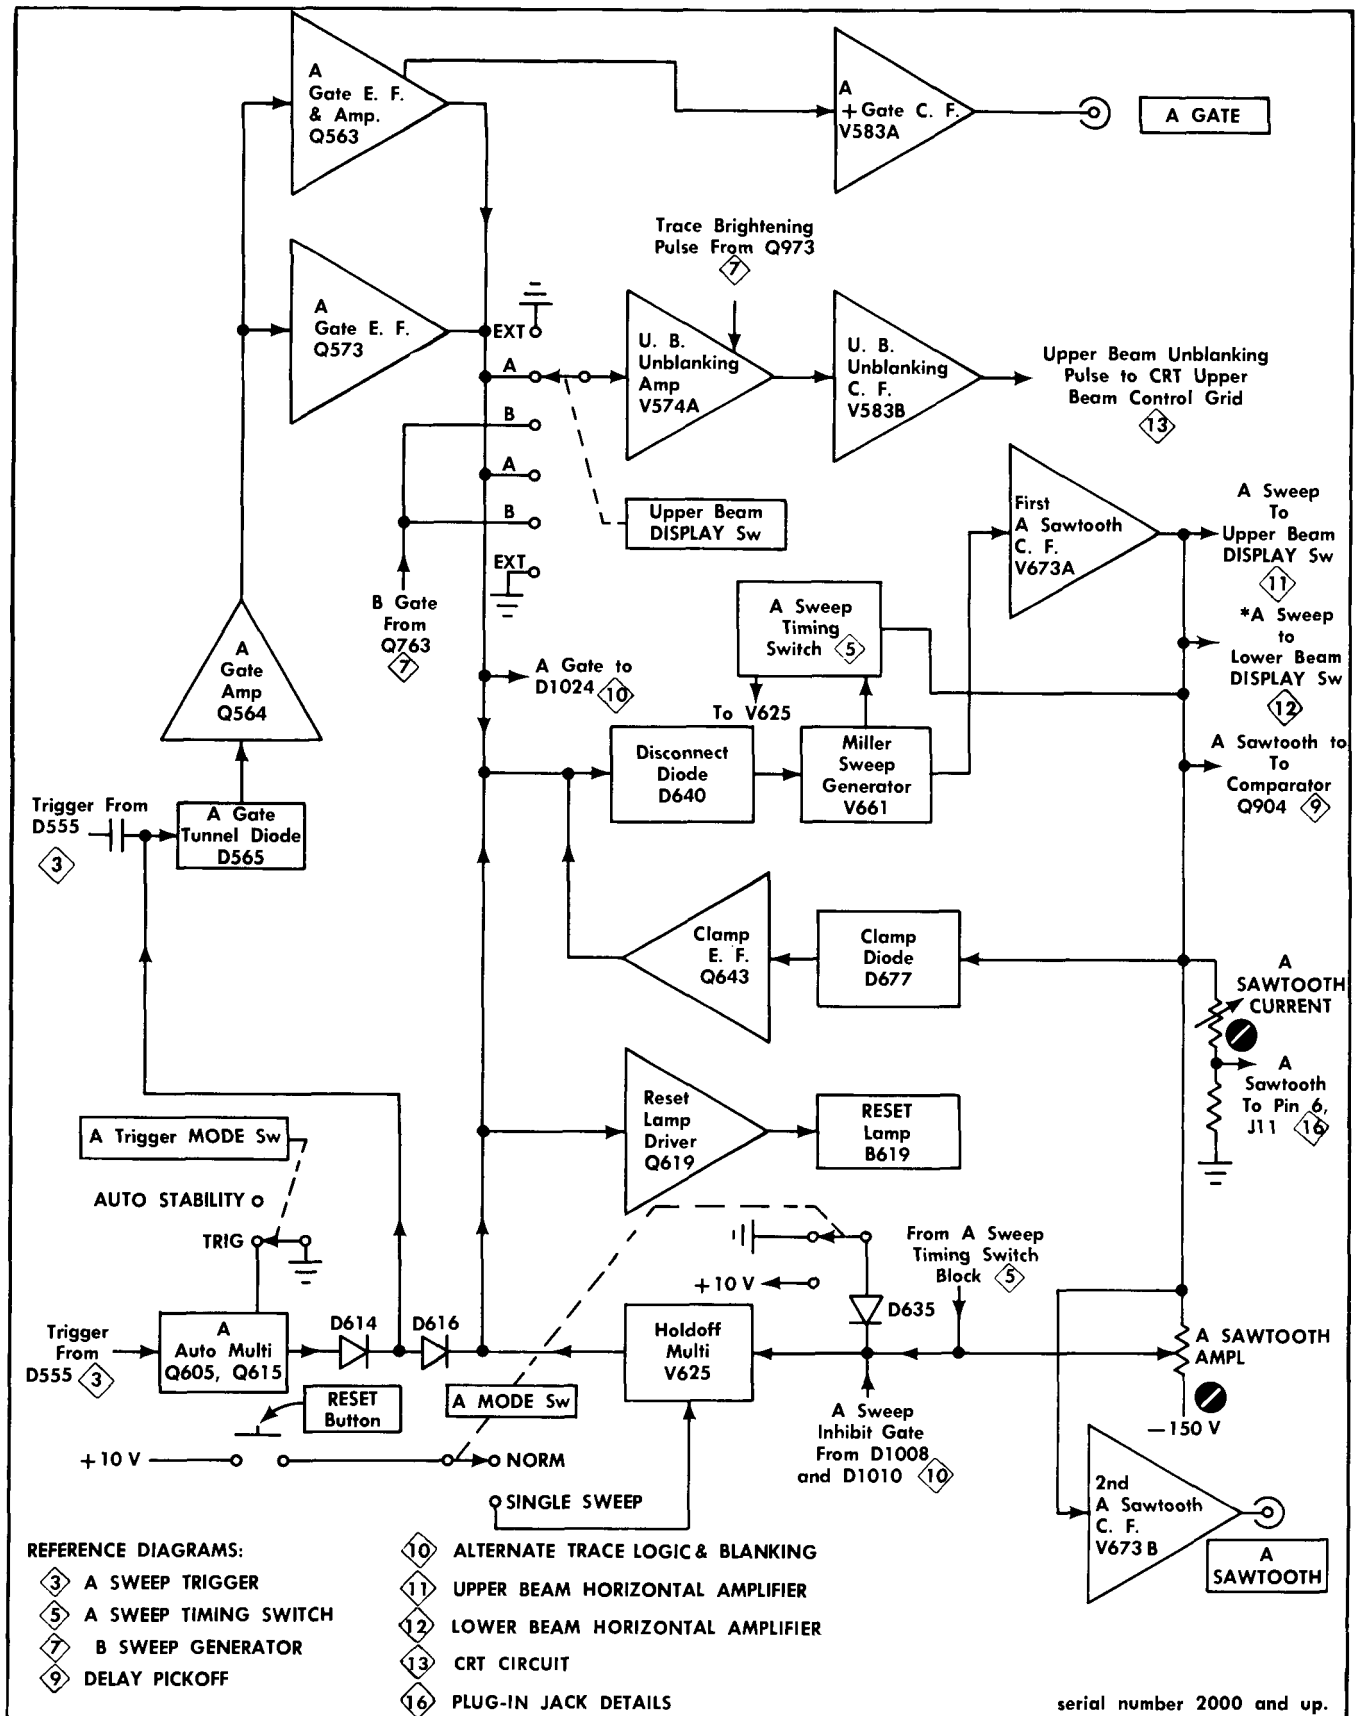

Fig. 3-12. Block diagram of the A Sweep Generator circuit.
The A Sweep Generator produces seven simultaneous output signals controlled by four input signals (see Fig. 3-12). There are two more input signals but these control only a portion of the A Sweep Generator circuit when certain Upper Beam DISPLAY switch positions are used. The input signals are:
To simplify the operational description of each stage shown in Fig. 3-12, the description initially assumes that the conditions are as follows:
3. The description for each stage begins with the stage in its quiescent state; i. e., the A Sweep Generator circuit is ready to be triggered. Then, the discussion proceeds to describe the operation as D555 triggers the sweep. Refer to Figs. 3-12, 3-13, 3-14 and the appropriate schematic diagrams when following the description. Other modes of operation, but only those of most importance where the input signal directly affects the stage, are briefly described last. All signal amplitudes and voltages stated in the text are approximate.
applied, Q563 is driven into saturation until the gate ends. The emitter waveform from this stage has the same polarity as the input and the amplitude is about 9 volts. Purpose of the stage is to provide a fast-rise negative-going low-impedance drive to the following circuits (see Fig. 3-12).